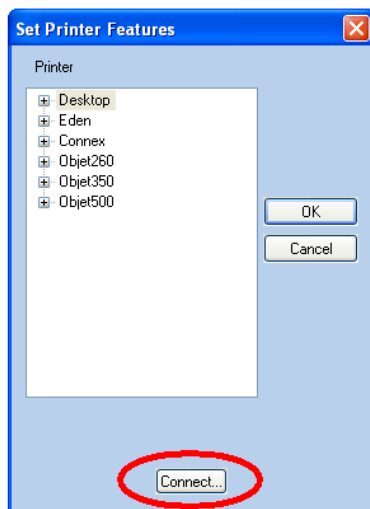

Figure 5-82 Connecting to a printer (A)
2. In the *Set Printer Features* dialog box, click **Connect** (see Figure 5-82 on page 5-68).